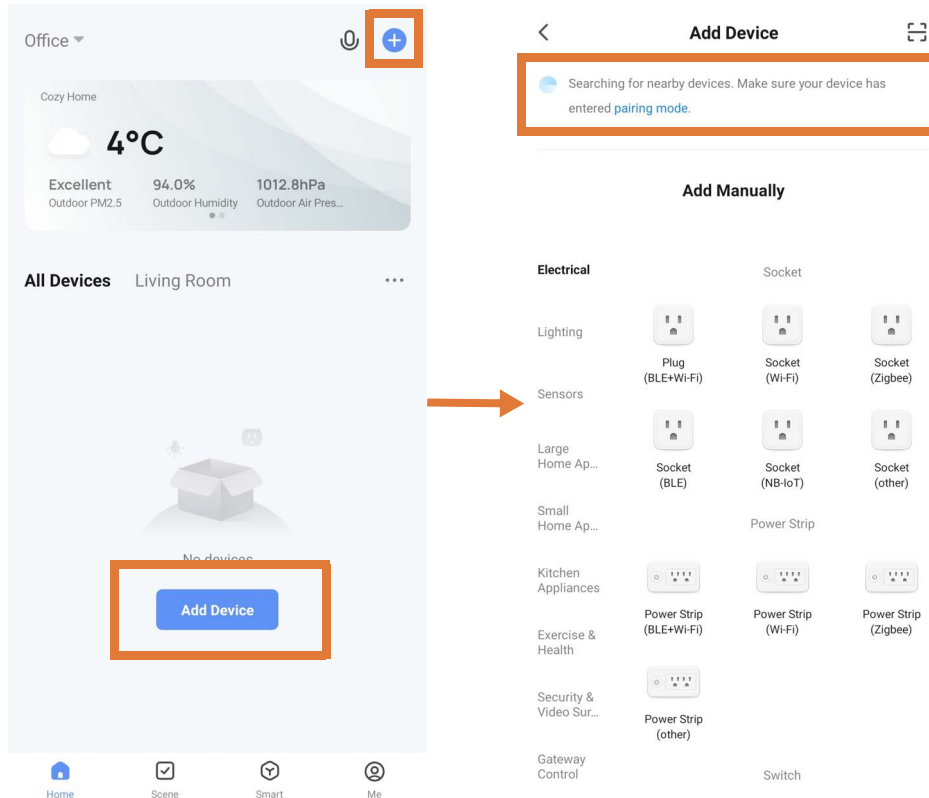

Figure 8 | Adding device on Smart Life app
2. The app should start scanning, as shown by the icon at the top of the screen (see **Figure 8**). If this icon and text does not show, press  in the top right-hand corner.